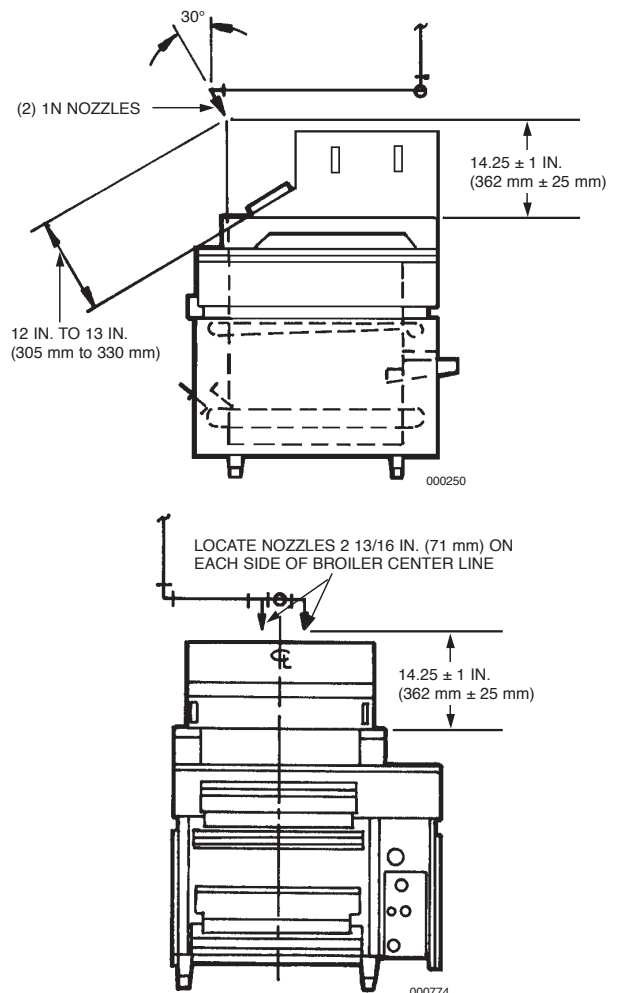

FIGURE 4-88
- Each individual broiler must be protected with a minimum of two 1N nozzles. The nozzles must be located as shown in Figure 4-88.